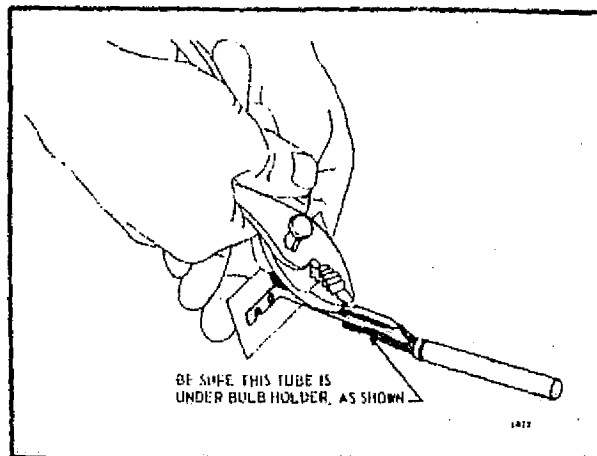

FIG. 10-SECURING CAPILLARY IN BULB HOLDER.
4. Place capillary in bulb holder channel. Pinch top edges of holder together at each segment (Fig. 10).